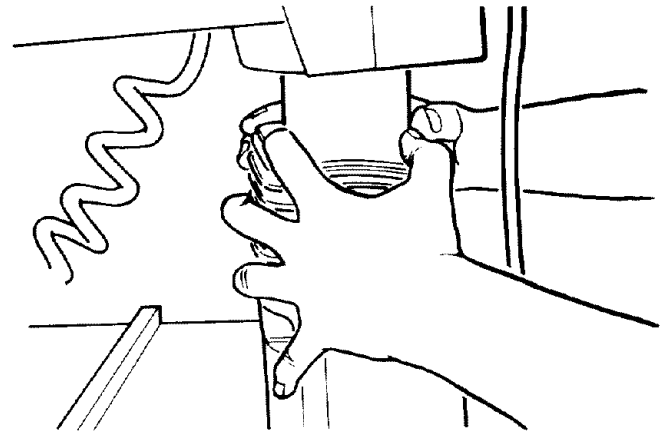

Fig. 176 - Collapsed Bellows
- A light film of oil should be wiped on the face of the *column tube* to lubricate the fit between the *column tube* and *column support*. With elevation *hand-wheel raise arm* to upper limit. Completely collapse bellows by pulling down on top flange as illustrated for access to *column tube*. (Figure 176)